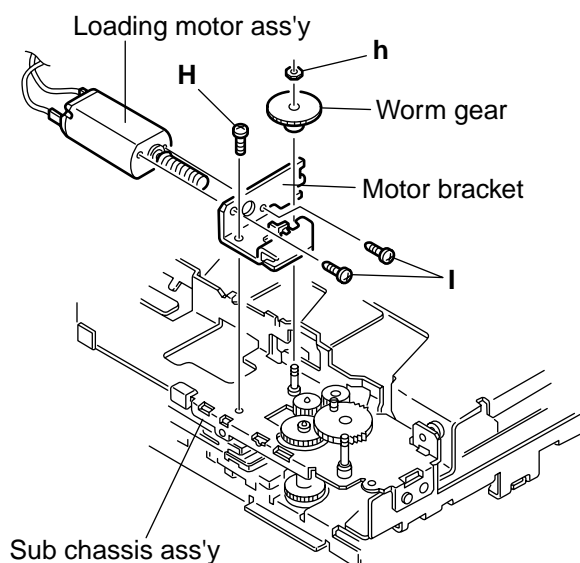

Fig.11
■ Removing the loading motor ass'y (see Fig. 11)
(see Fig.11)
5. Remove the two screws **I** fixing the loading motor ass'y. (see Fig 11)